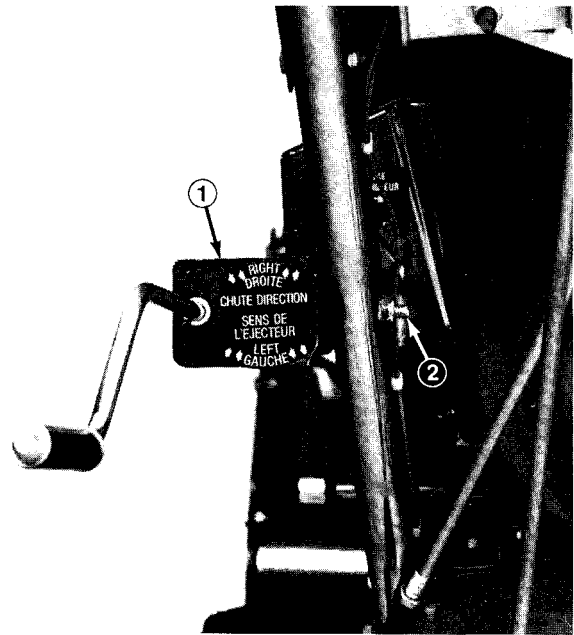
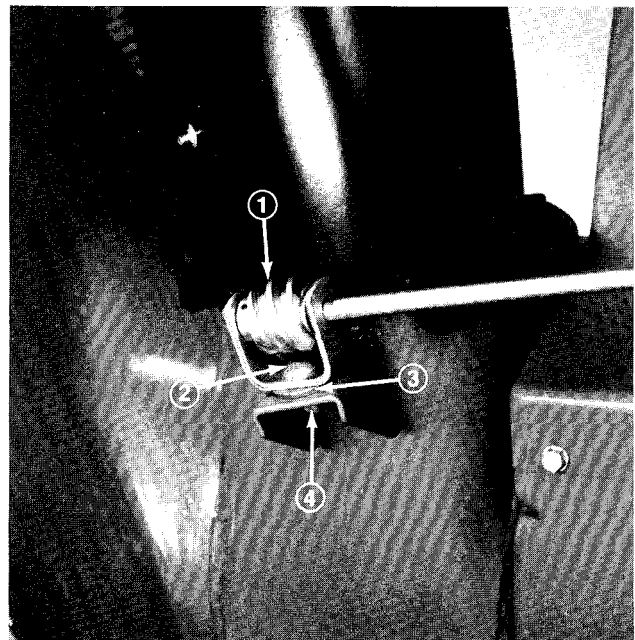

Figure 10
Figure 11
6. Install chute control bracket and rod against left side of handle with capscrew and locknut; but do not tighten the locknut (Fig. 10).
7. Apply No. 2 general purpose grease on worm gear. Next, mount worm bracket and gear on top of mounting flange with carriage bolt, pyramidal washer, flat washer and cone locknut (Fig. 11). Do not tighten locknut.
8. Push worm firmly against teeth in retaining ring; then tighten locknut (Fig. 11). Also tighten locknut holding chute control bracket against left handle (Fig. 10). Check operation by rotating chute control. Repeat if necessary.